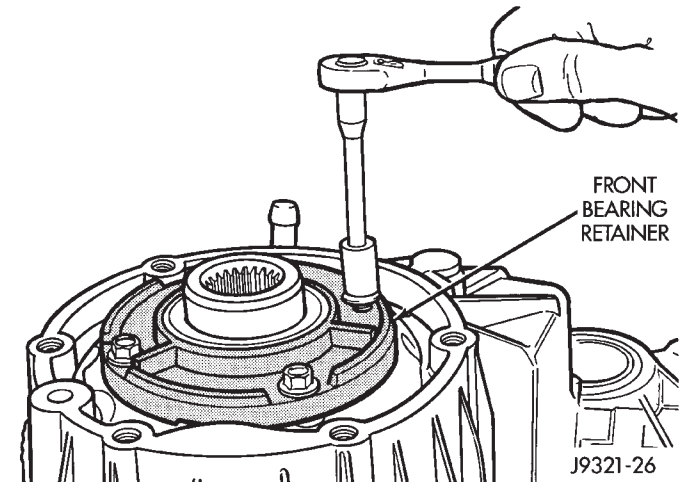

Fig. 41 Front Bearing Retainer Bolt Removal
(26) Turn front case on side so front bearing retainer is accessible.
(27) Remove front bearing retainer bolts (Fig. 41).